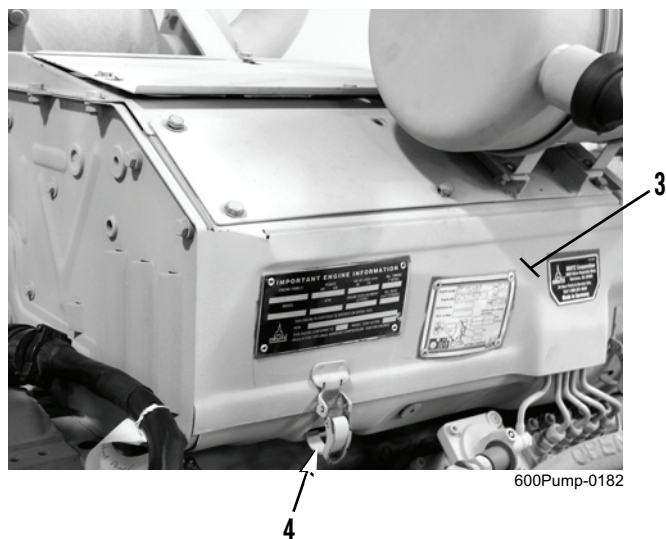

Figure 2. Oil Cooler Access Plate.
1. Release two clamps (Figure 2, Item 4) and remove oil cooler access plate (Figure 2, Item 3).
2. Install oil cooler access plate (Figure 2, Item 3) and latch two clamps (Figure 2, Item 4).